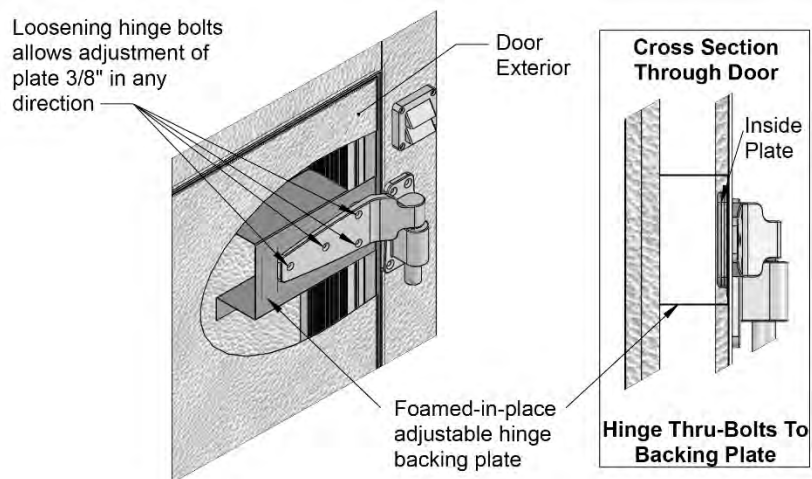

Figure 2
- If adjusting the door, loosen but do not remove the screws that attach the hinge blade to the door (see figure 2 below for location of screws).